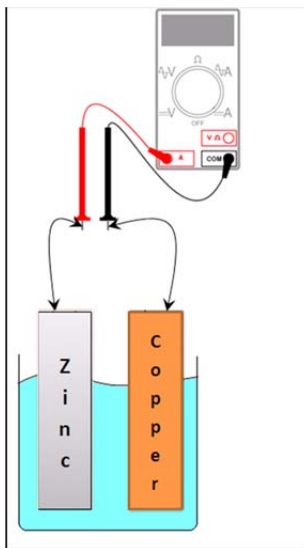

Figure 2: Galvanic Cell setup with Ammeter
4. Attach one end of an alligator clip to the top of the copper electrode. Attach the other end to top of the zinc electrode, as shown in Figure 2.
5. Connect the electrodes to the ammeter probes using 2 alligator clips as shown in figure 2.